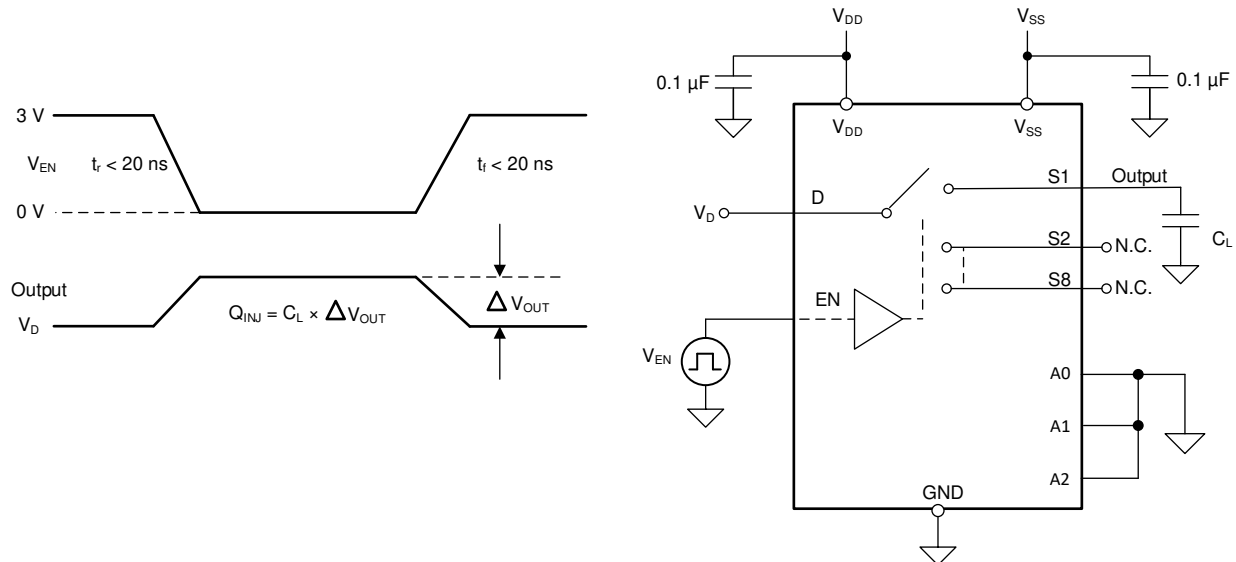

Figure 7-9. Charge-Injection Measurement Setup
The TMUX7208M has a transmission-gate topology. Any mismatch in capacitance between the NMOS and PMOS transistors results in a charge injected into the drain or source during the falling or rising edge of the gate signal. The amount of charge injected into the source or drain of the device is known as charge injection, and is denoted by the symbol Q_{INJ} . Figure 7-9 shows the setup used to measure charge injection from source (S_x) to drain (D).